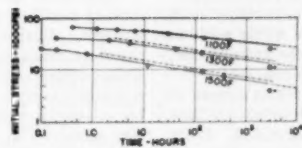

FIG. 7 STRESS VERSUS TIME FOR BEGINNING OF TERTIARY CREEP—SOLID LINES; STRESS VERSUS RUPTURE TIME—DASHED LINES, 18-8-MO
**Stress Versus Time for Beginning of Tertiary Creep.** The relation between stress and time for beginning of tertiary creep is generally observed, Fig. 7, to lie parallel to and below that for time to rupture. It will be recalled that the time for beginning of tertiary creep limits the calculation of total creep according to the means described previously.